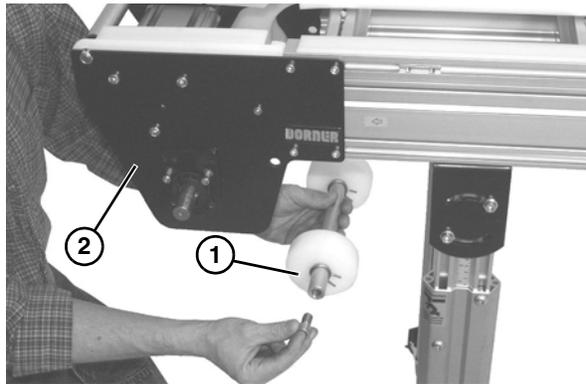

Figure 33
3. Lower roller assembly (**Figure 33, item 1**) from drive tail assembly (**Figure 33, item 2**).